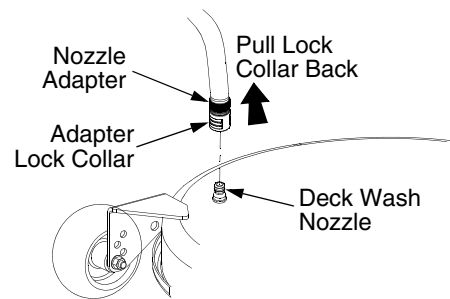

Figure 32
- Pull back the lock collar of the nozzle adapter and push the adapter onto the deck wash nozzle at the left end of the mower deck. Release the lock collar to lock the adapter on the nozzle. See Figure 32.